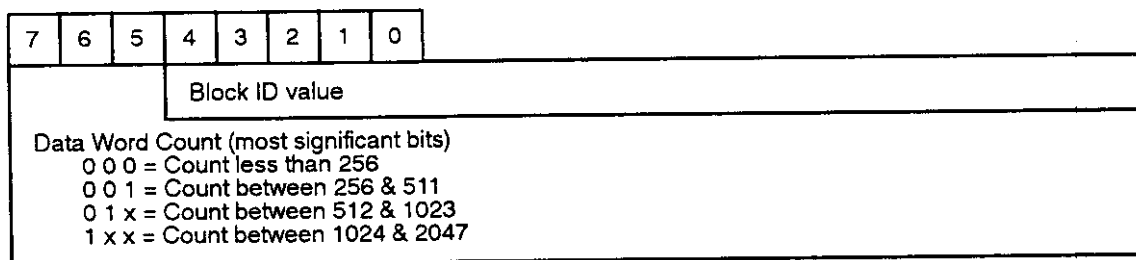

Figure 29. Operator Console to TAC Command (Word 2).
- Word 2: Block ID and the 3 most significant bits for the data word count (see Figure 29)
The data word count has a maximum value of 255 (0xFF). To obtain values greater than 255, the upper 3 bits of word 2 (see Figure 29) are used as an extension of this word.